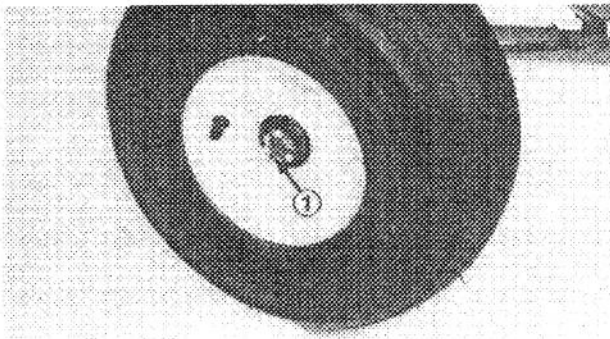

Figure 37
3. Rotate the wheel by hand and tighten the slotted nut (Fig. 37) until the bearing binds slightly. Then, loosen nut until the nearest slot and hole in spindle line up. Reinstall the cotter pin to retain the slotted nut in place.